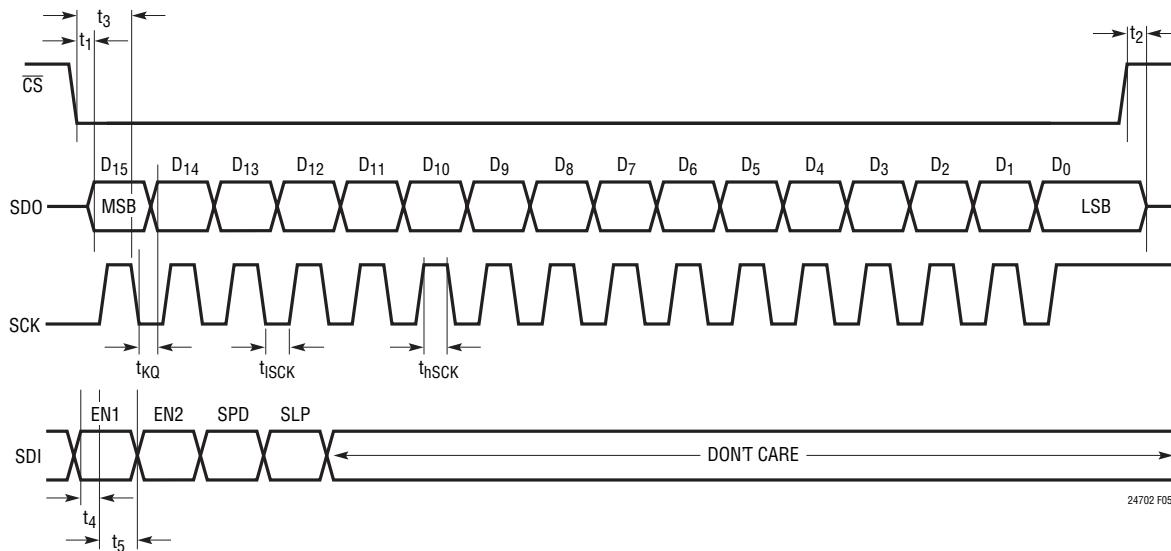

Figure 5. Data Input/Output Timing
**Note 7:** See Figure 5.
The LTC2470/LTC2472 generates a 16-bit direct binary encoded result. It is provided as a 16-bit serial stream through the SDO output pin under the control of the SCK input pin (see Figure 5).